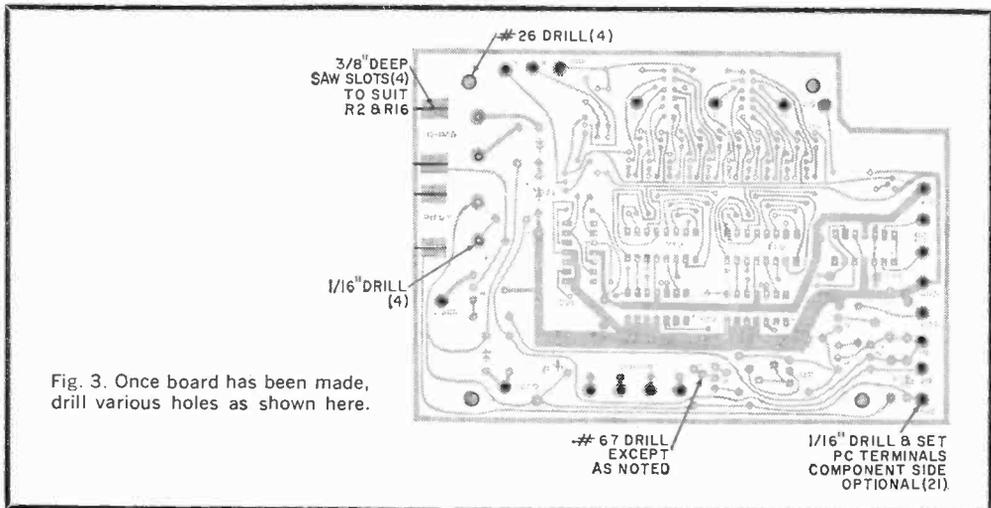

Fig. 3. Once board has been made, drill various holes as shown here.
**Counter Module Construction.** The schematic of the counter module is shown in Fig. 1. A printed circuit board is essential for this module. You can purchase one as mentioned in the Parts List or you can make your own using the etching guide shown in Fig. 2 and the drilling instructions in Fig. 3.